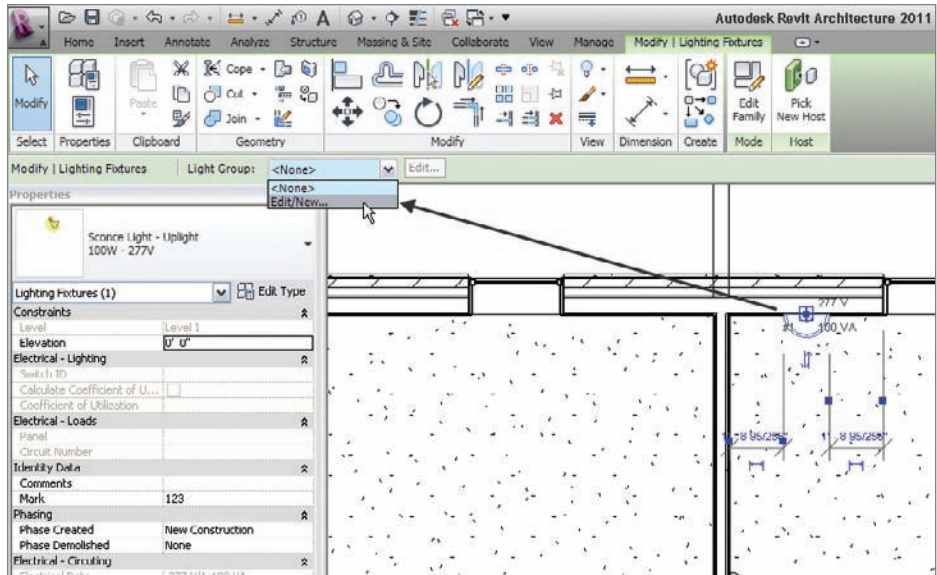

FIGURE 19.10 Adding a lighting group
1. Select one of the sconces you just added to the model, as shown in Figure 19.10.
2. On the Options bar, click the Light Group menu, and select Edit/New from the list, as shown in Figure 19.10.